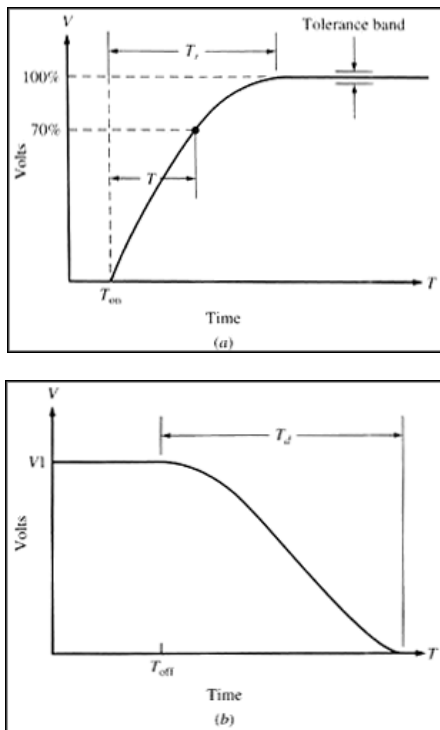

Figure 5. (a) Rise-time definition; (b) fall-time definition. Source: J.J. Carr, *Sensors and Circuits* Prentice Hall.
Sensors do not change output state immediately when an input parameter change occurs. Rather, it will change to the new state over a period of time, called the response time (T_r in Figure 5). The response time can be defined as the *time required for a sensor output to change from its previous state to a final settled value within a tolerance band of the correct new value*. This concept is somewhat different from the notion of the *time constant* (T) of the system. This term can be defined in a manner similar to that for a capacitor charging through a resistance and is usually less than the response time.
The curves in Figure 5 show two types of response time. In Figure 5a the curve represents the response time following an abrupt positive going step-function change of the input parameter. The form shown in Figure 5b is a decay time (T_d to distinguish from T_r , for they are not always the same) in response to a negative going step-function change of the input parameter.